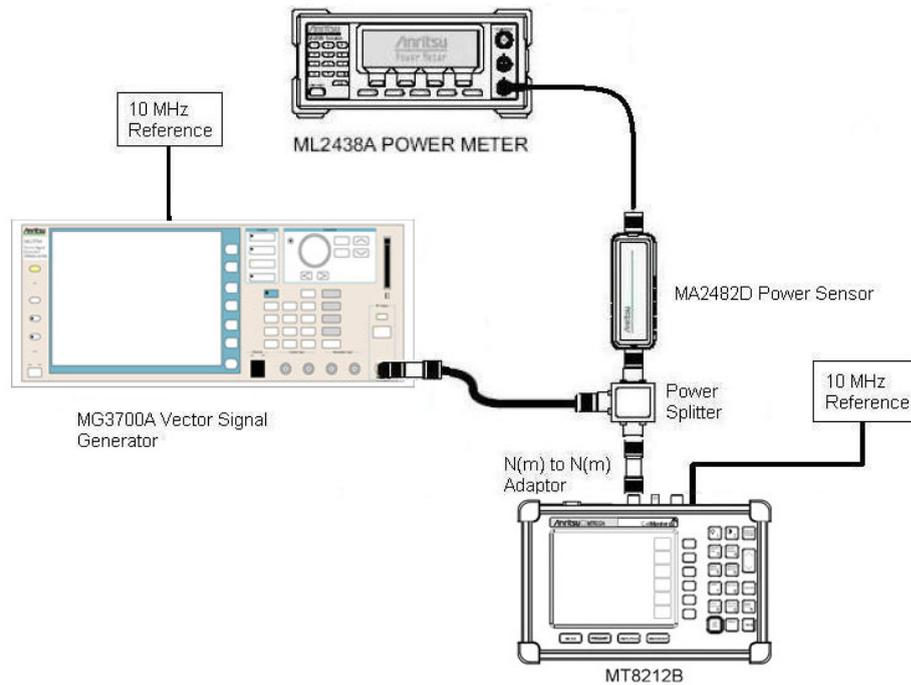

Figure 2-8. GSM RF Measurement Test Setup
1. Connect the equipment as shown in Figure 2-8. Confirm that the external 10 MHz reference is connected to both the 10 MHz Ref input of the MG3700A and the Ext Freq Ref input of the MT8212B.